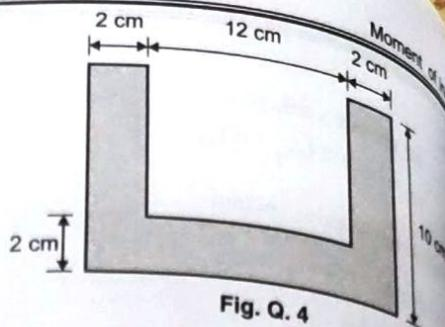

Fig. Q. 4
- Q. 4** Find the moment of inertia of a section shown in Fig. Q. 4 about x-axis passing through its centre of gravity.